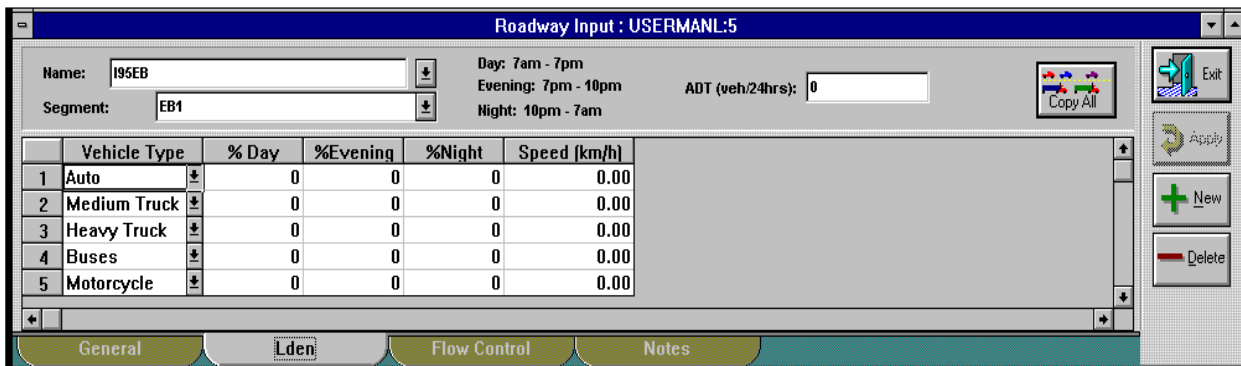

Figure 24. Roadway input: Traffic tab (L_{den}).
2. Select  on the roadway input dialog (see Figure 24).